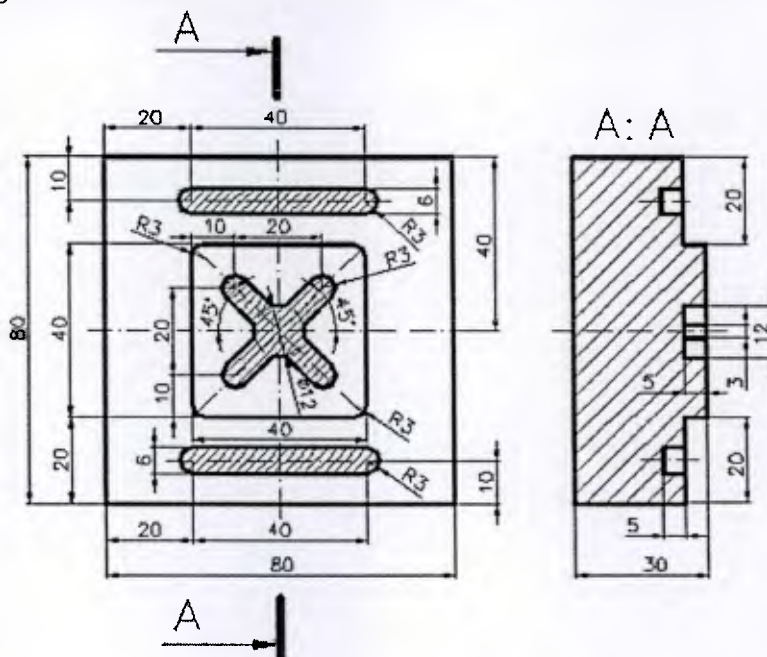

Fig. 1
- Q.4 Write a NC part program for finishing of a casting as shown in fig. 1 on a CNC machining centre. All the dimensions are in mm.